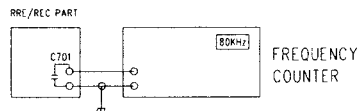

Fig.1-9 Recording bias adjustment
- 1) Connect frequency counter C701 (See Fig.1-9) and press the Record button.